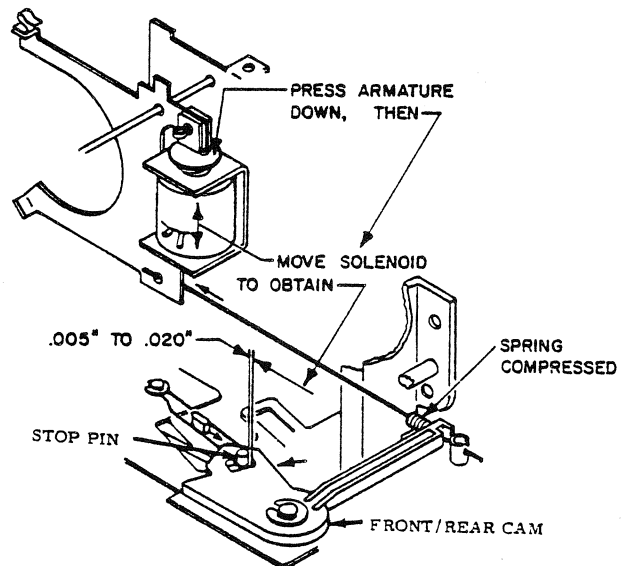

Figure 3-12. Reverse adjustment
3. Solenoid Adjustment (Figure 3-12)